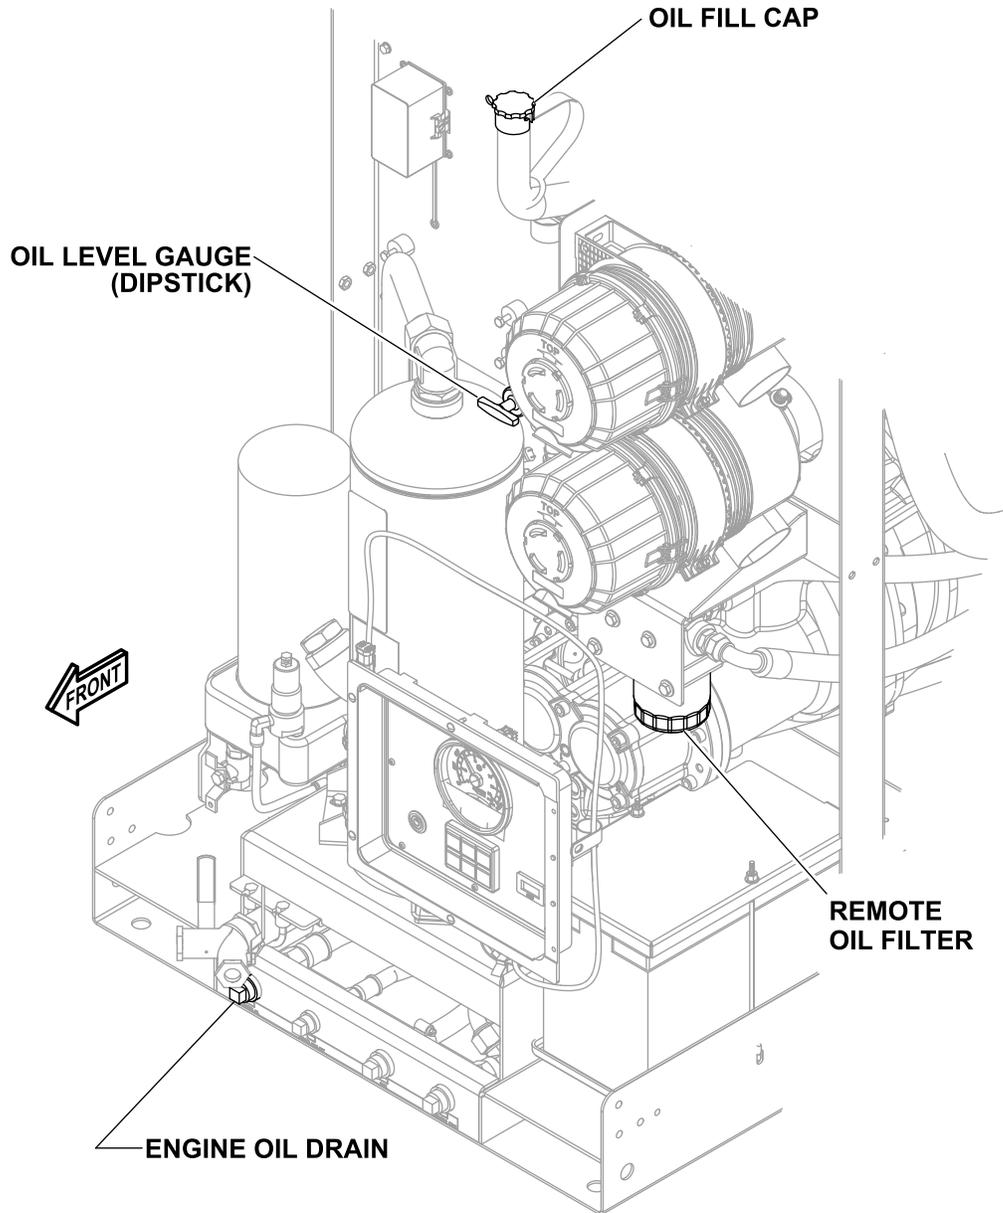

FIGURE 4-1: SHOWING OIL FILL, OIL FILTER , DIPSTICK and DRAIN LOCATIONS
4. Check the position of the oil level gauge (dipstick) (Figure 4-1).